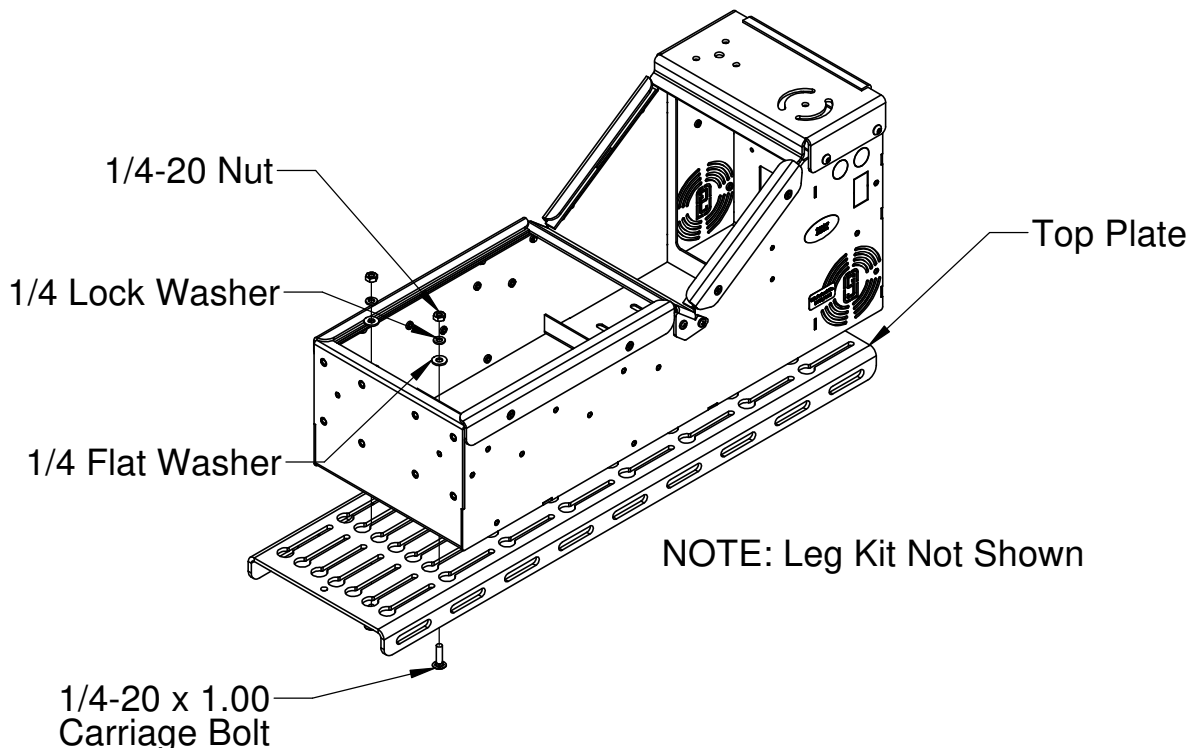

FIG 1 - Console Installation on Top Plate
2. Insert (4) 1/4-20 x 1.00 carriage bolts provided in the hardware bag from the bottom side through the top plate and slots in the bottom of the console box.
3. Fasten the box to the plate using the flat washers, lock washers and 1/4-20 hex nuts remaining in the hardware bag. See FIG 1 below for detail.